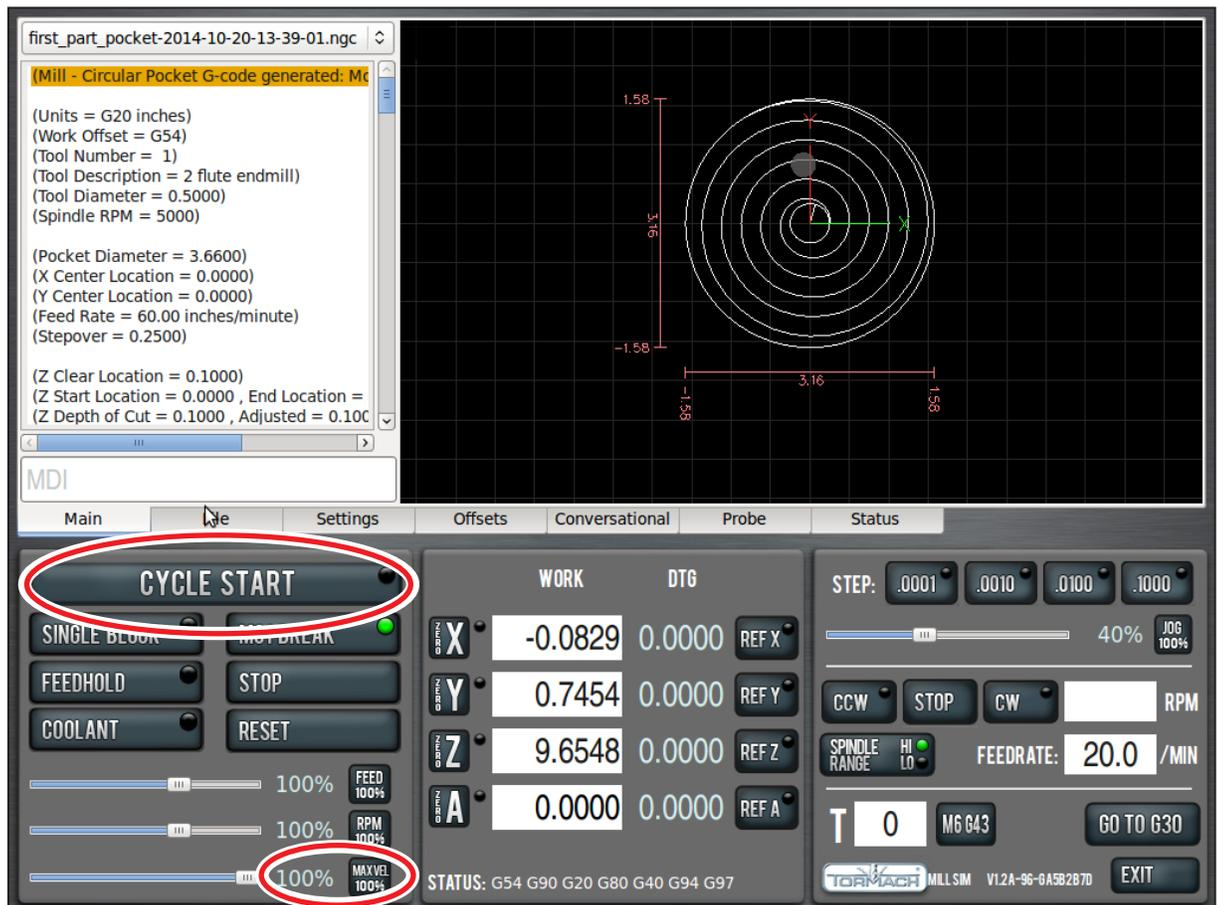

Figure 5.11
- When you click *Save*, it also automatically loads into the control and displays the tool path (see **Figure 5.11**).
1. Grab the *Maxvel* slider (lower left hand corner of screen) by clicking on and drag it down to zero (see **Figure 5.11**).
2. Click *Cycle Start* button (see **Figure 5.11**). If the current tool is not *Tool 1* and you have configured the mill for manual tool changes, the *Cycle Start* button LED may blink requesting a tool change. Change the tool and confirm by clicking the *Cycle Start* button again. If equipped with an ATC, tool changes happen automatically without operator interaction.
3. Grab *Maxvel* slider again and slowly increase allowed velocity (see **Figure 5.11**). Bring velocity back down to zero when you get close to the part and double check values in the DROs to make sure that tool position looks correct. For example, if tool is 1/4" above the workpiece, Z DRO should read 0.2500. If everything looks correct, move *Maxvel* slider back up to resume part program.